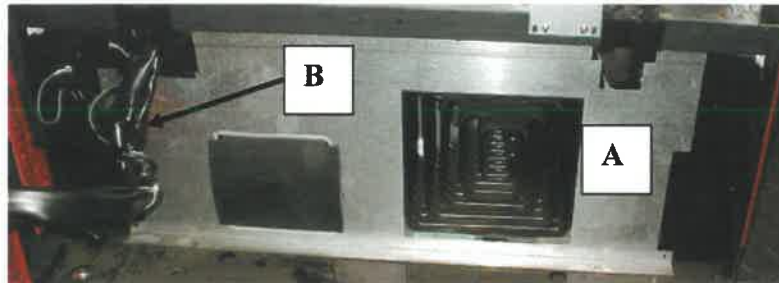

Figure 1
2. Remove the Cabinet Front Stiffener Plate (A Figure 1).
3. Disconnect the stack plug power connector from the cabinet harness (B Figure 1).